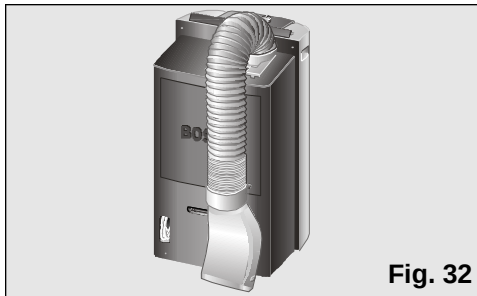

Fig. 32
- ☐ To do this, bend the tube towards the back of the appliance and secure it with the diffusion hook. **Figs. 32 and 33.**